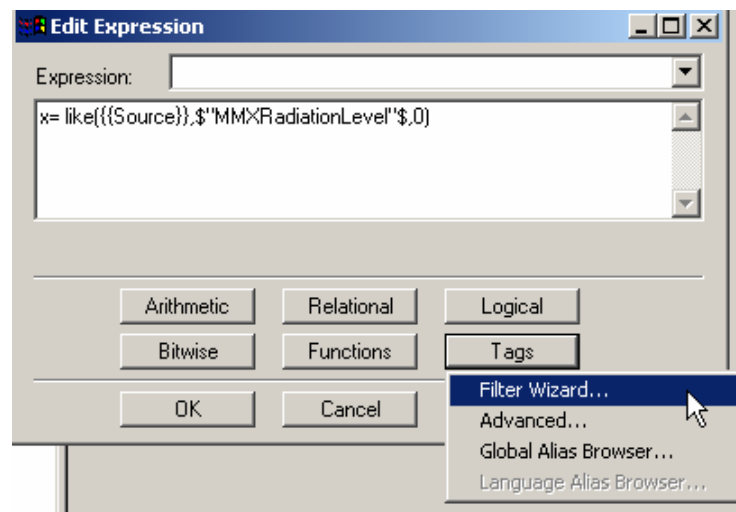

Figure A.38. Alarm Filter Expression Editor and Filter Wizard Selection
4. Click the **Edit** button. The alarm filter **Edit Expression** dialog box appears, as shown in **Figure A.38**.
5. Click the **Tags** button, and then select **Advanced** from the pop-up menu, as shown in Figure A.38. This shows a listing of all possible alarm attributes for use in your filter.